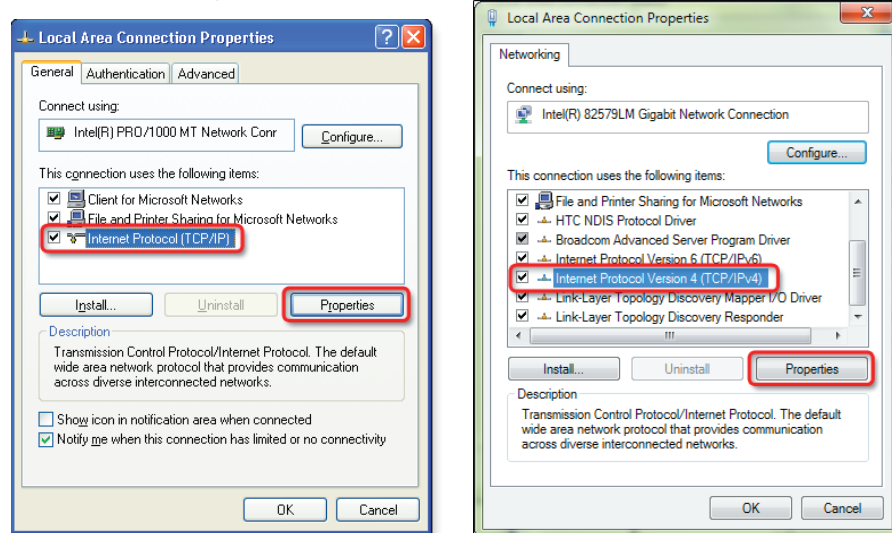

Figure 17. Selecting Internet Protocol (TCP/IP) For the LAN Connection
3. Select **Internet Protocol (TCP/IP)** and click on the **Properties** button, as shown in figure 17 below for Windows XP (left) and Windows 7 (right). If **Internet Protocol (TCP/IP)** is not on the list, it must be added (installed). See the Microsoft Windows user manual or the Windows online help system for information on how to install the TCP/IP protocol.